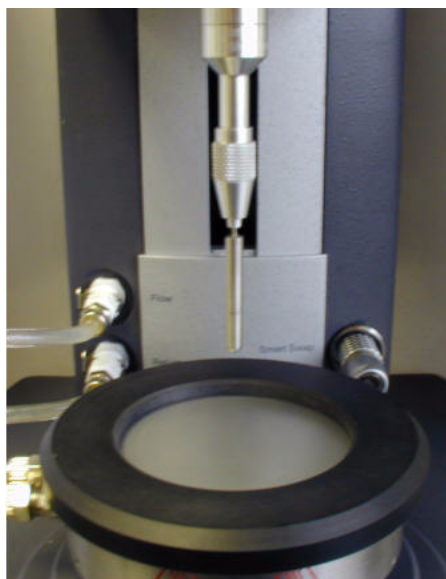

Figure 1.2
3. Raise the head of the instrument and attach the geometry holder to the draw rod (see Figure 1.2).